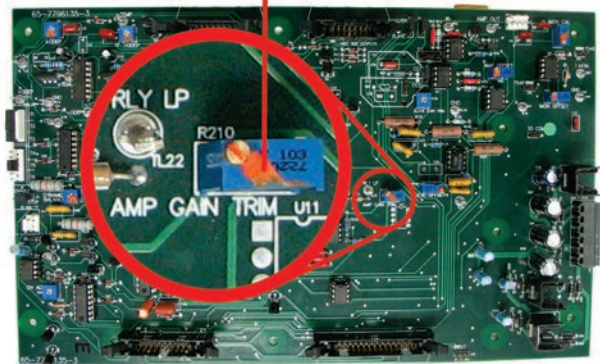

Figure B.2.26 – Amp Gain Trim Location on the Main Board
- A. On the main board of each amplifier, locate the Amp Gain Trim (R210) (see **Figure B.2.26**).